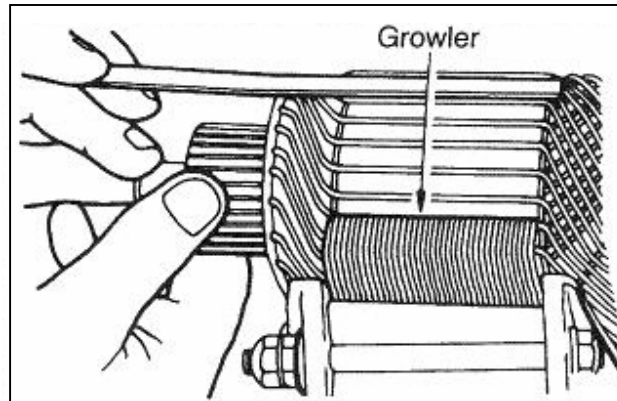

Fig. 9-24
(1) Armature short-circuit test (see Fig.9-24)
- ① Place Armature in a growler.
- ② Hold a thin steel blade parallel and just above while rotating armature slowly in growler. A shorted armature will cause blade to vibrate and be attracted to the core. Replace shorted armature.